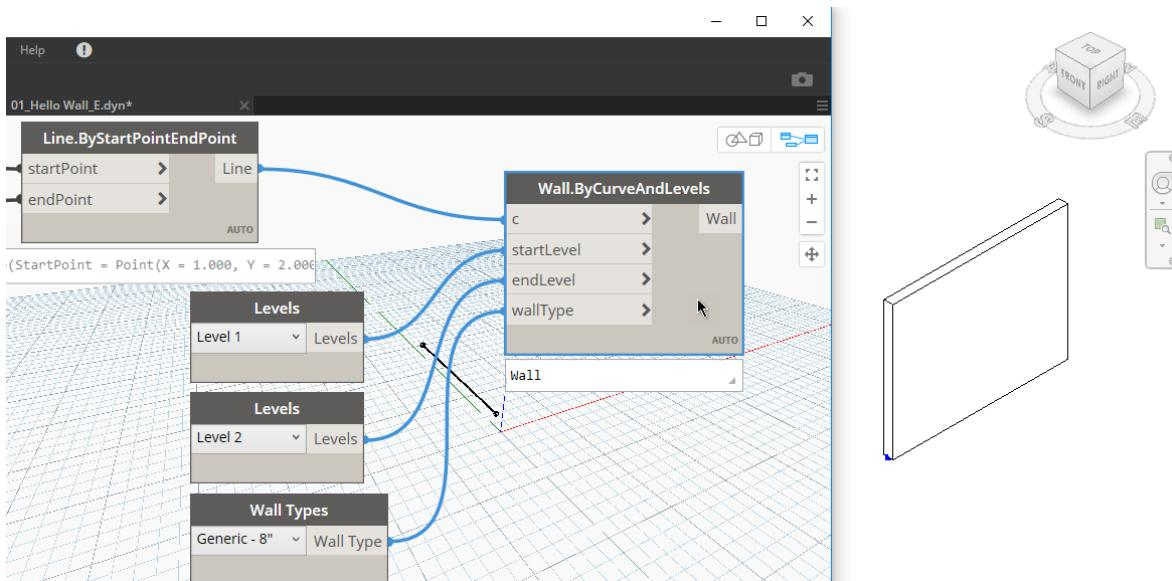

Figure 22
This node has four inputs: **c** stands for “curve.” We also need two levels to set the height and a wall type. As noted previously, a useful habit to get into is to pause your mouse over the various inputs for a tooltip indicating more information on what that input expects (see Figure 22).
21. Choose: **Level 2** from the next one and wire it to: **endLevel** and then choose any wall type and wire it to the **wallType** port (see Figure 22).